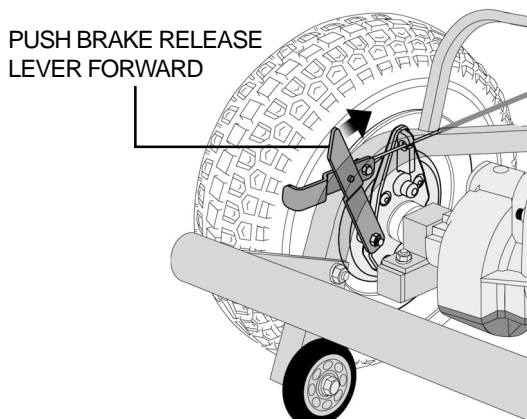
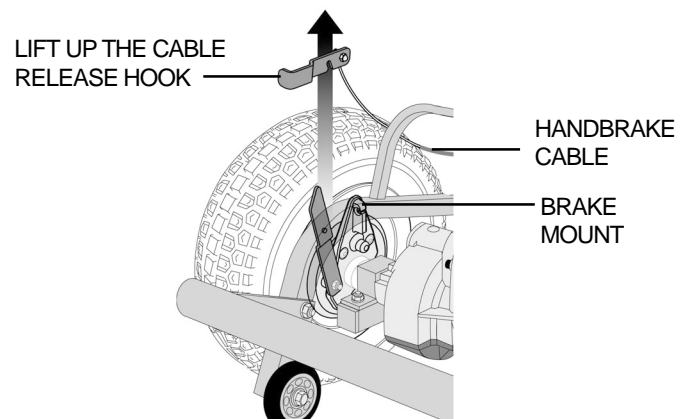

Figure 21. Brake Release Lever
Figure 21A. Disengage Handbrake Cable
8. (If equipped) Disconnect the handbrake cable from the rear hub by pushing forward and holding the brake release lever with your thumb. See figure 21. Lift the cable release hook free of the peg and slide the handbrake cable free of its slot on the brake mount. See figure 21A. Move the cable safely out of the way.